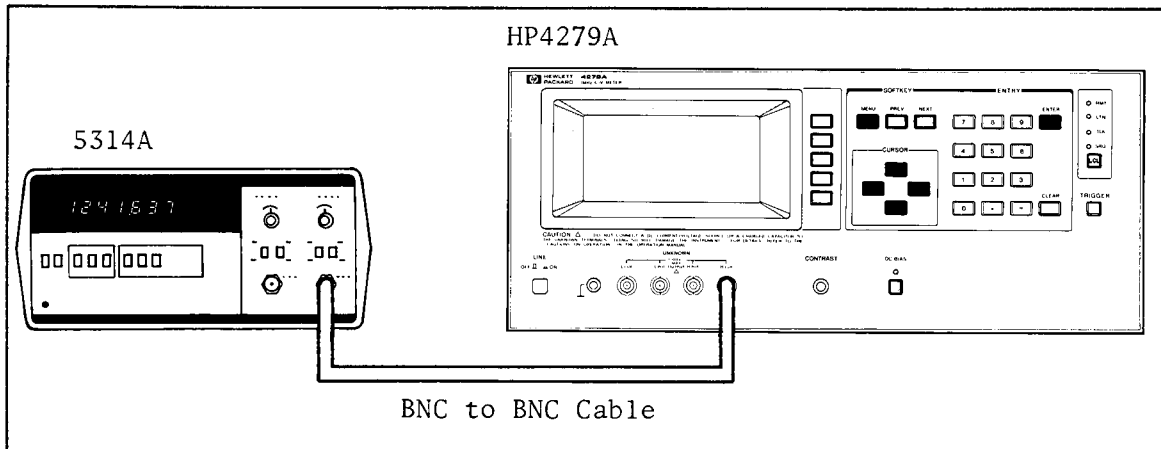

Figure 9-1. Test Frequency Accuracy Test Setup
1. Connect **INPUT B** of the 5314A to the 4279A's Hcur terminal as shown in Figure 9-1.